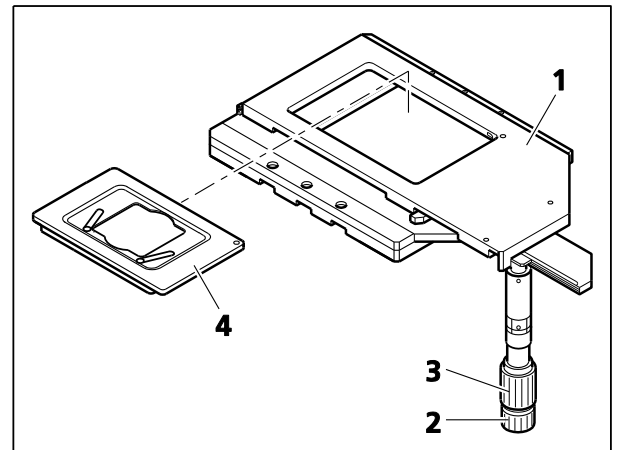

Fig. 2-1 Mechanical Stage 130x85 R with Mounting Frame
- Mechanical stage (Fig. 2-1/1) designed to hold and position specimens in mounting frame K (Fig. 2-1/4)
- Drive knobs for X (Fig. 2-1/2) and Y adjustment (Fig. 2-1/3)